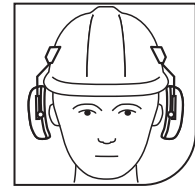

Fig 9
- **Stand-by position:** Lift the cups to the fixed stand-by position. In a noisy environment the earmuffs must be worn in the working position at all times (Fig 9)